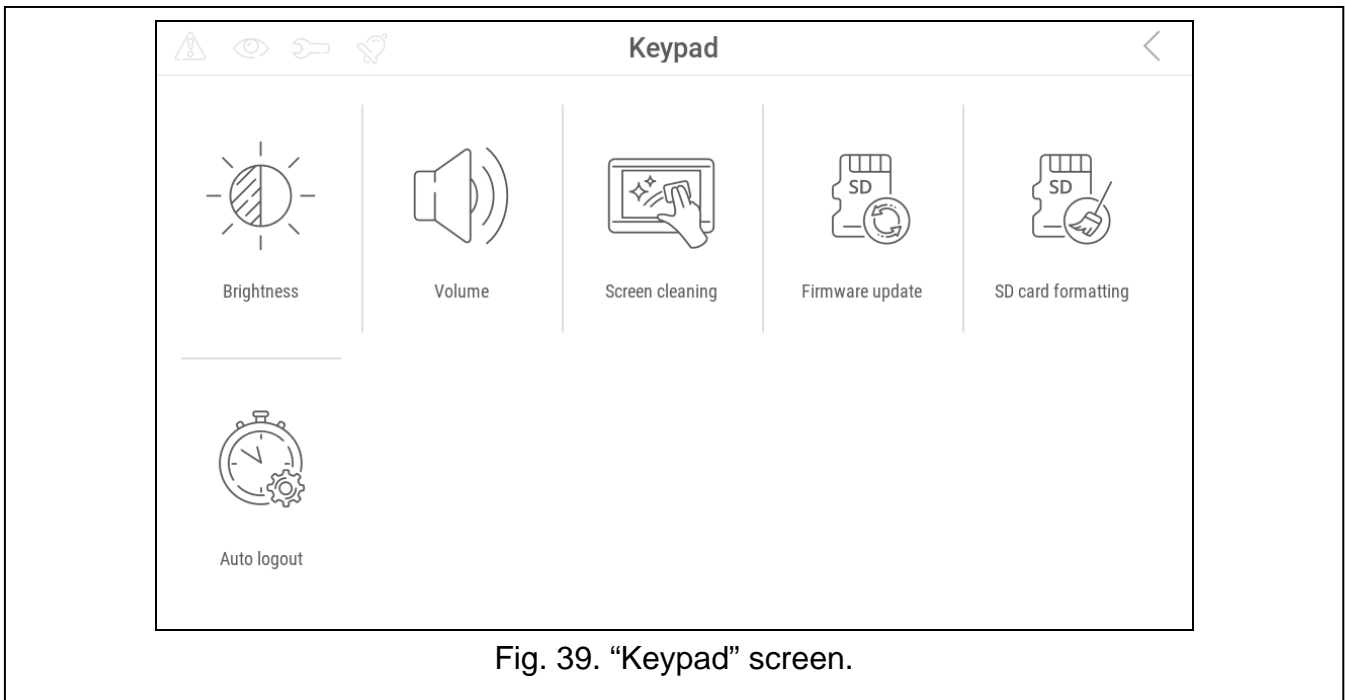

Fig. 39. "Keypad" screen.
6. Tap the "Keypad" function. The "Keypad" screen will be displayed (Fig. 39).
3. Tap the “Keypad” function. The “Keypad” screen will be displayed (Fig. 39).
8. Tap the “Keypad” function. The “Keypad” screen will be displayed (Fig. 39).